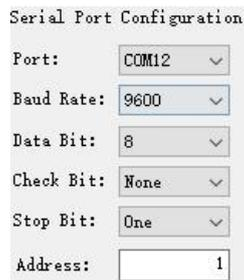

Figure 1
1. As shown in Figure 1, first select the correct port, then select the correct baud rate (default 9600) and address according to the wiring diagram identification printed on the meter side, at last click “open the serial port”.